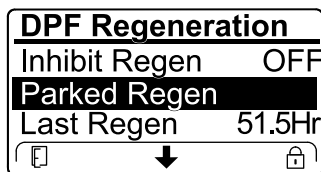

Figure 81
- If the engine computer requests a recovery regeneration or is processing a recovery regeneration and you scroll down to the PARKED REGEN option, parked regeneration locks and the lock icon (Figure 81) appears in the lower right corner of the InfoCenter.